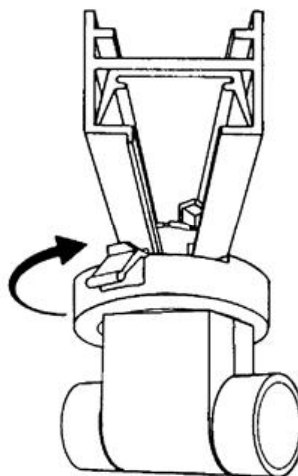

FIG. 2
2. Rotate FITTING 90° clockwise until LOCKING LEVER snaps and locks in place (see Fig. 2 and 3).